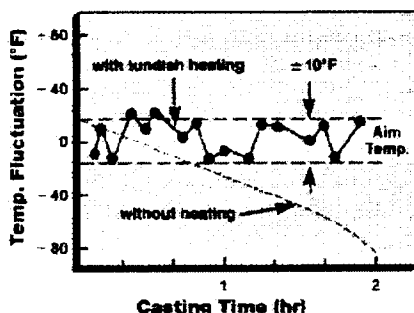

Figure 1 Tundish heating can closely control casting temperature and eliminate the need for using extra energy in melting.
- With better control over temperature in the tundish, and the ability to maintain it at the most desirable level, more uniform quality throughout the cast and from heat to heat is observed. (See Fig. 1)